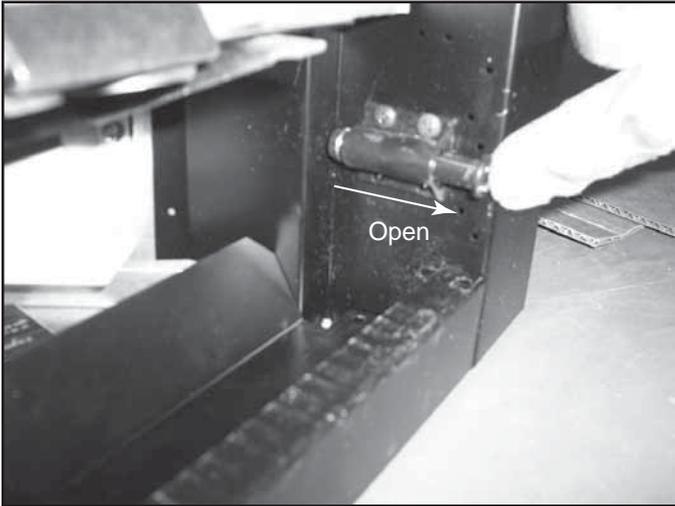

Figure 15.12 Magnetic Touch Latch Open
- Make sure the screen magnetic touch latches are in the open position. See Figure 15.12.